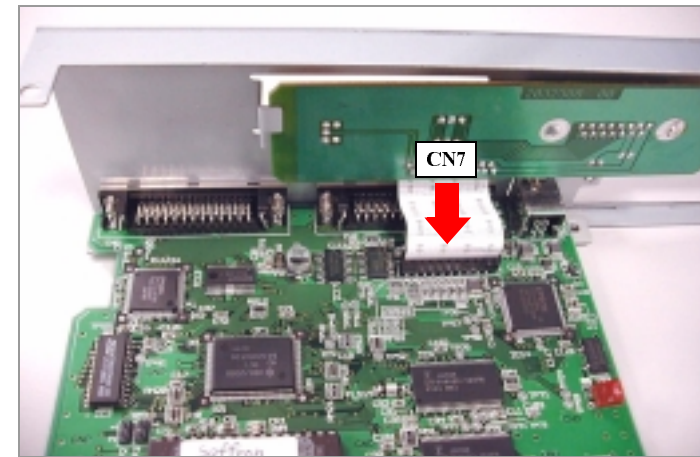

Figure 4-13. B109 SUB-B Board Removal (2)
2. Remove the two screws (boxed, 3x7, paired side: 5mm) securing the optional I/F to “COVER, I/F, PLATE”, and then remove the optional I/F from “COVER, I/F, PLATE”. (See Figure 4-13.)
3. Disconnect the harness from CN7 on the B109 MAIN Board. (See Figure 4-13.)